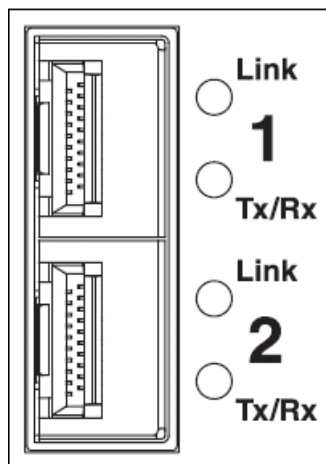
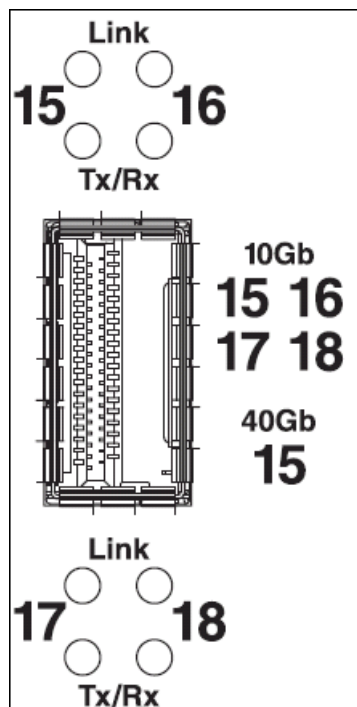

Figure 6-5 SFP+ port LEDs
Figure 6-6 QSFP+ port LEDs
- ▶ SFP+ and QSFP+ module port LEDs, as shown in Figure 6-5 and Figure 6-6 on page 261.